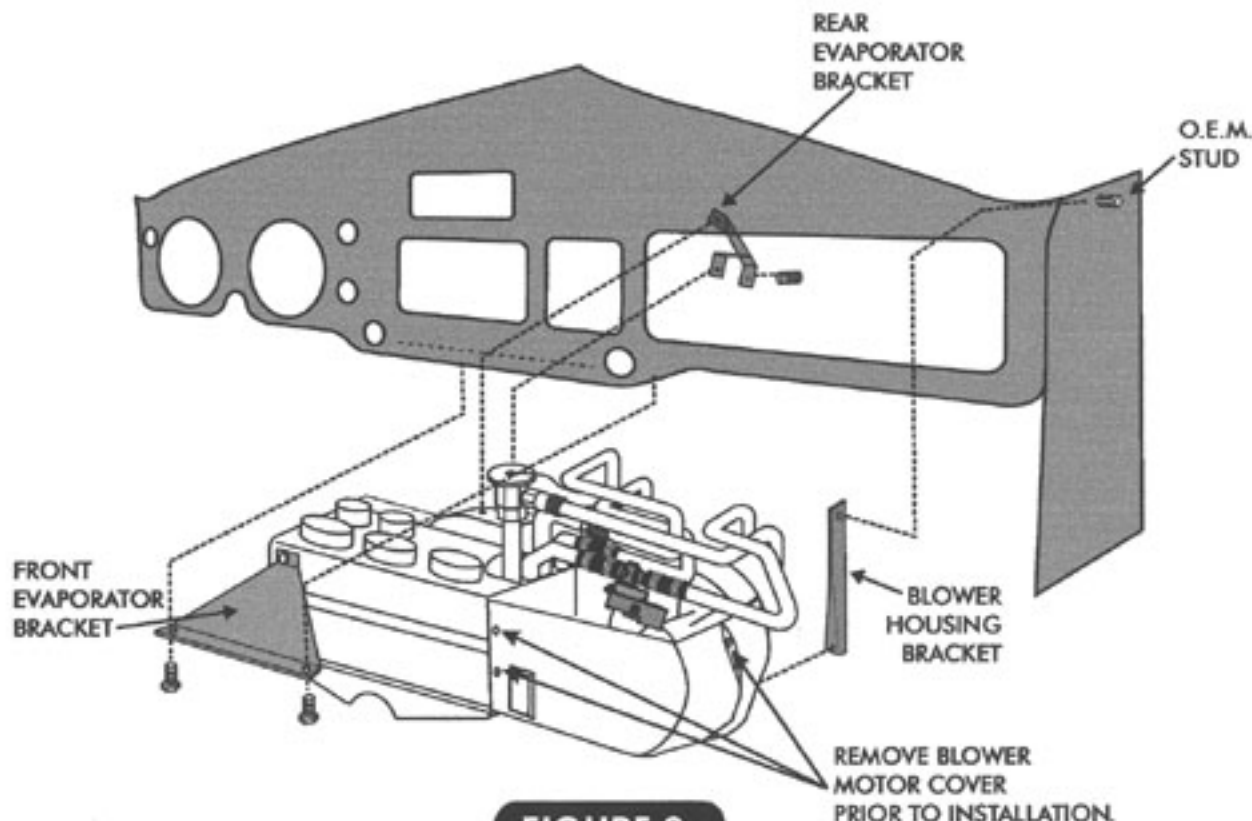

FIGURE 9
- 1. YOU WILL REMOVE BLOWER MOTOR COVER FROM EVAPORATOR PRIOR TO THIS INSTALLATION, AS SHOWN IN FIGURE 9, PAGE 4.
- 1. INSTALL BLOWER HOUSING BRACKET TO PASSENGER KICK-PANEL, USING O.E.M. BOLT LOCATED IN TOP RIGHT-HAND CORNER, AS SHOWN IN FIGURE 9, PAGE 4.
- 3. LOOSELY ATTACH THE REAR EVAPORATOR BRACKET TO TOP OF EVAPORATOR ONLY, USING (1) 1/4"-20 x 1/2" BOLT (THIS WILL HELP ALIGN THE BRACKETS AND EASE THE EVAPORATOR INSTALLATION). NOW ATTACH THE BLOWER HOUSING BRACKET TO THE EVAPORATOR AND TIGHTEN USING (1) 10-32 x 1" BOLT AND (1) WASHER AS SHOWN IN FIGURE 9, PAGE 4.
- 4. HOLD THE EVAPORATOR UP, WHILE REMOVING THE BOLT FROM THE REAR BRACKET. NOW, ATTACH THE REAR EVAPORATOR BRACKET TO THE BACK OF THE EVAPORATOR CASE, AND TIGHTEN USING (1) 1/4"-20 x 1/2" BOLT. YOU MAY NOW ALIGN THE REAR BRACKET TO THE TOP HOLE ON THE EVAPORATOR CASE AND TIGHTEN, AS SHOWN IN FIGURE 9, PAGE 4.
- 5. ATTACH THE FRONT EVAPORATOR BRACKET TO EVAPORATOR CASE, AND TIGHTEN, USING (1) 1/4"-20 x 1/2" BOLT, AS SHOWN IN FIGURE 9, PAGE 4.